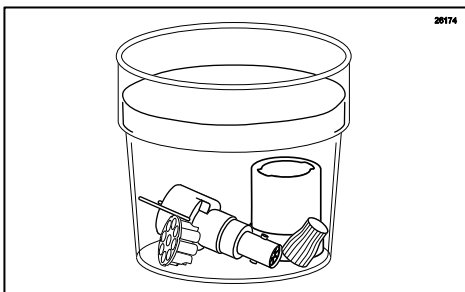

Figure 58
- Place the items in the approved sanitizer solution. Allow these items to soak throughout the upcoming processes. (See Figure 58.)